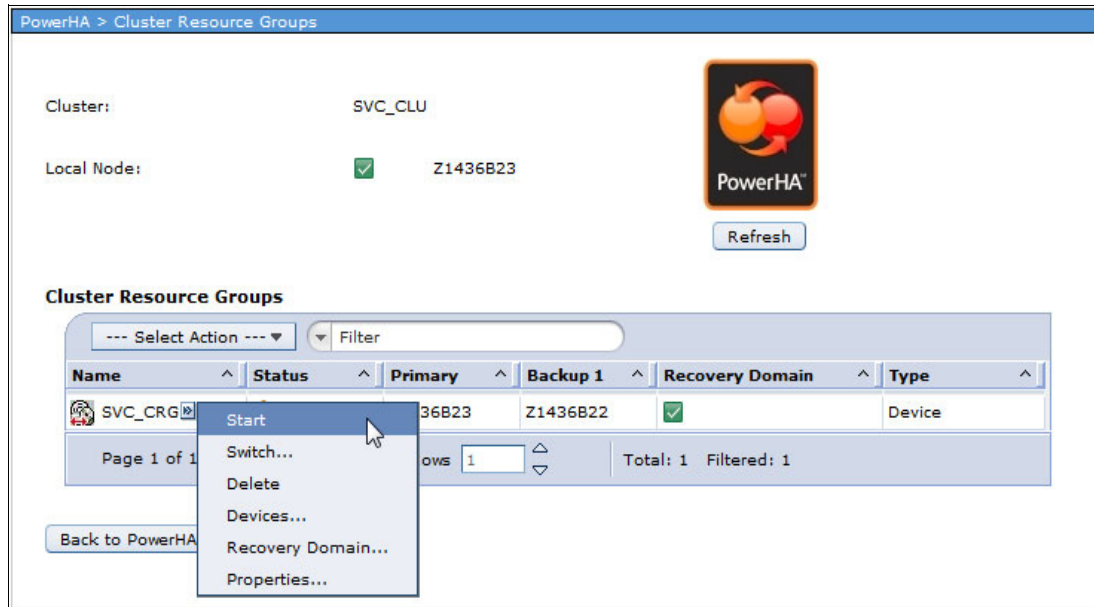

Figure 4-41 Starting the cluster resource group
37. In the PowerHA Cluster Resource Groups window, right-click the cluster resource name and select **Start**, as shown in Figure 4-41. The SAN Volume Controller with LUN level switching by using PowerHA SystemMirror for i setup is now complete.